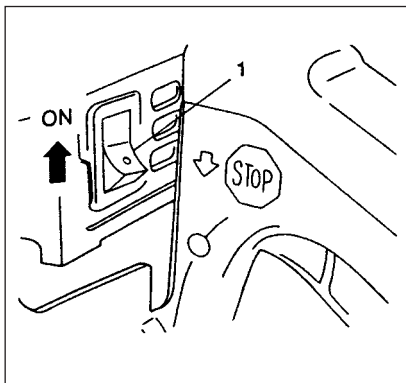

Fig. 2-2
Start (Fig. 2-2, 2B, 3, 4, 4B)
⚠ VARNING! (Fig.2-2)
1. Skjut stoppknappen (1) i ON-läge. (Fig. 2-2)